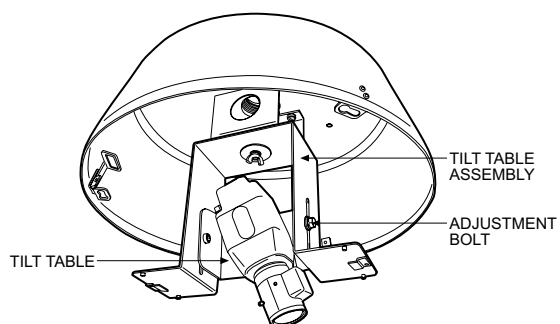

Figure 2. Camera and Lens Installation
- ❶ Refer to Figure 2 and attach the tilt table assembly to the back box with the supplied black fender washer, lock washer, and wing nut. Tighten the wing nut.
- ❷ Attach the camera and lens to the tilt table with the 1/4-20 screw and washers (supplied). Adjust the tilt table by loosening the bolts on the side of the tilt table assembly. Position the tilt table where desired and tighten the bolts.
- ❸ Do the following to ensure that the lens will not hit the viewing window when installed:
- ❹ Refer to the Operation Manual supplied with the camera and lens, for the following information: